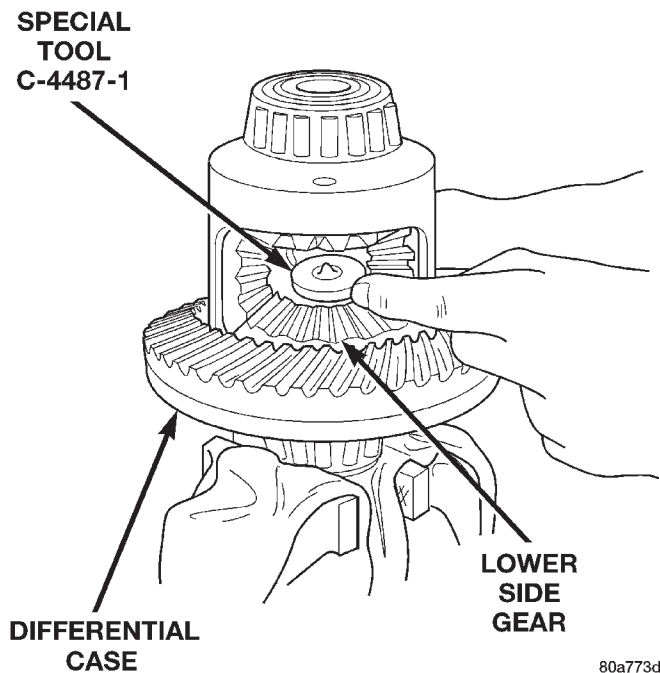

Fig. 66 Step Plate Tool Installation
- (6) Install and lubricate Step Plate C-4487-1 (Fig. 66).
- (7) Assemble Threaded Adapter C-4487-3 into top side gear. Thread Forcing Screw C-4487-2 into adapter until it becomes centered in adapter plate.